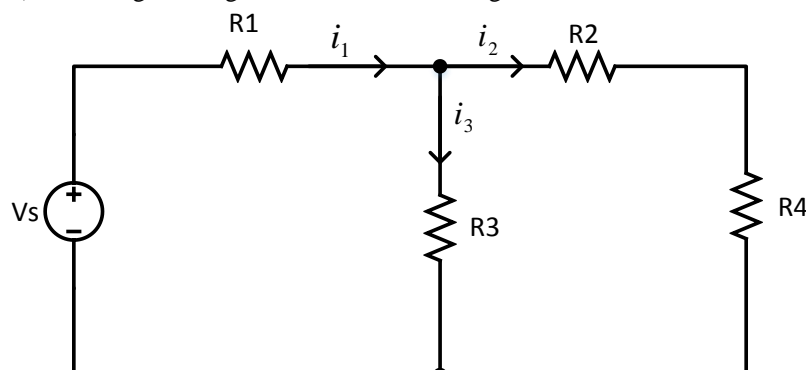

Figure 1: Circuit diagram of the system
Students will not be allowed to conduct this lab if they have not done their pre-lab. The pre-lab can be done by using one of the circuit simulator tools such as PSPICE, Multisim, etc. The circuit is composed of four resistors (R_1 , R_2 , R_3 and R_4) and a single voltage source as shown in Fig 1.
- Using circuit analysis theory formulate some equations which can model the behavior of the circuit in Fig. 1.
The simulated circuit (Fig. 1) should be implement on the circuit board for analysis.